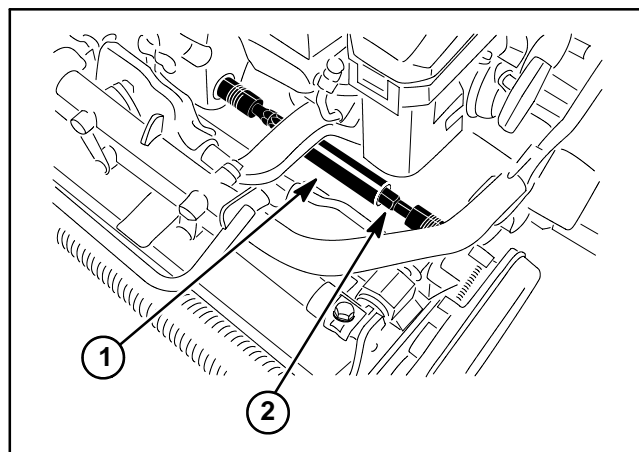

Figure 50
4. Slide the telescoping coupler off the cutting unit hex shaft (Fig. 50).
7. Remove four (4) washer head screws (item 7) that secure extension housing (item 13) to RH drum housing.
- A. Flange head screw (item 2) that secures front of transmission to frame.
- B. Cap screw (item 10), hardened washer (item 9) and flange nut (item 12) that secure rear of transmission to frame.
- A. Four (4) washer head screws (item 7). First, torque all screws from **15 to 40 in-lb (1.7 to 4.5 N-m)**. Then, using an alternating crossing pattern, torque screws from **85 to 95 in-lb (9.6 to 10.7 N-m)**.
- B. Cap screw (item 10) and flange nut (item 12) that secure rear of transmission to frame.
- C. Flange head screw (item 2) that secures front of transmission to frame.
7. Slide the telescoping coupler onto the cutting unit hex shaft (Fig. 50).